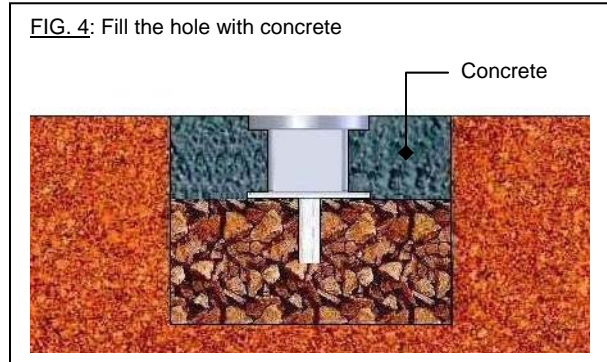

FIG. 5: Install bollard
Step 5 Install the bollard: Lift the socket cover and set the base of the bollard inside the socket. Rotate the bollard so that one of the padlock loops aligns with the slot in the socket cover. (See. FIG. 5). To secure the bollard to the sleeve, connect a padlock to the padlock loop that extends through the socket cover.